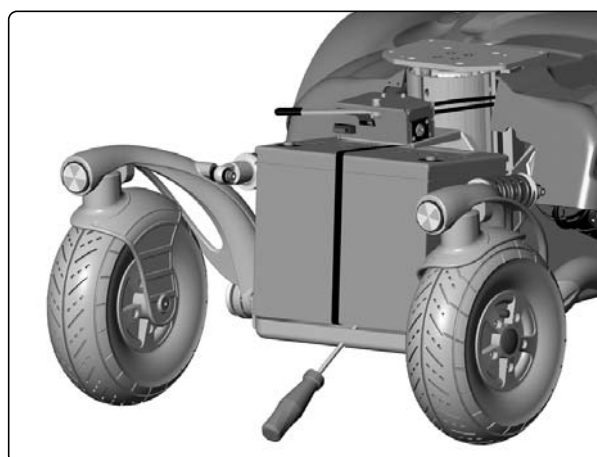

Fig. 10. With a screwdriver through the hole in the front edge of the chassis to facilitate removal, the battery can be lifted.
5. Lift out the battery. With a screwdriver through the hole in the front edge of the chassis to facilitate removal, the battery can be lifted; see figure 10.